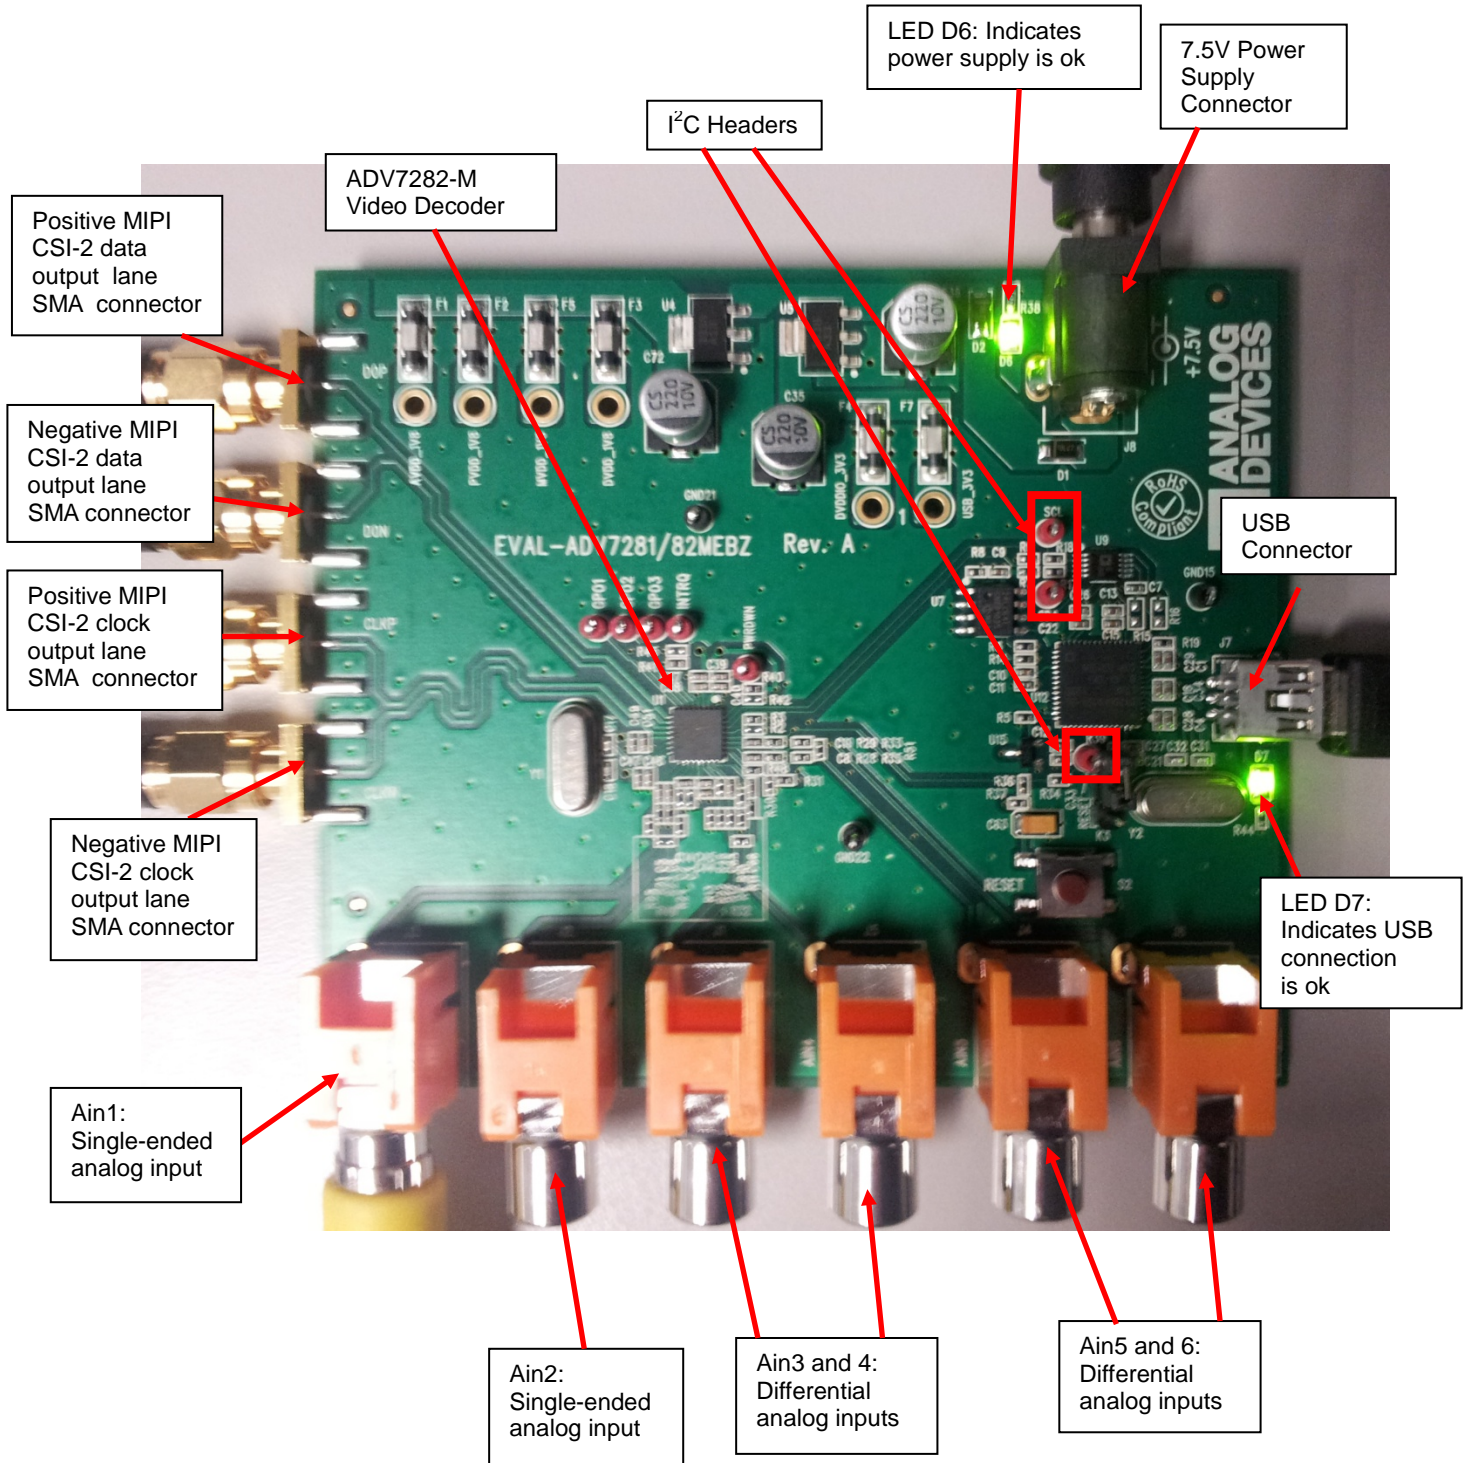

Figure 1. ADV7282-M Evaluation Board
2. Connect the 7.5 V supply cable to Jumper J8 on the ADV7282-M evaluation board. When this is done correctly, LED D6 turns on (refer to Figure 1).
4. Connect the other end of the USB cable to Jumper J7 of the ADV7282-M evaluation board. When this is done correctly, LED D7 turns on (refer to Figure 1).
- The I²C lines to the ADV7282-M can be accessed via test points on the evaluation board. Refer to Figure 1.
| Figure 1. ADV7282-M Evaluation Board..... | 5 |